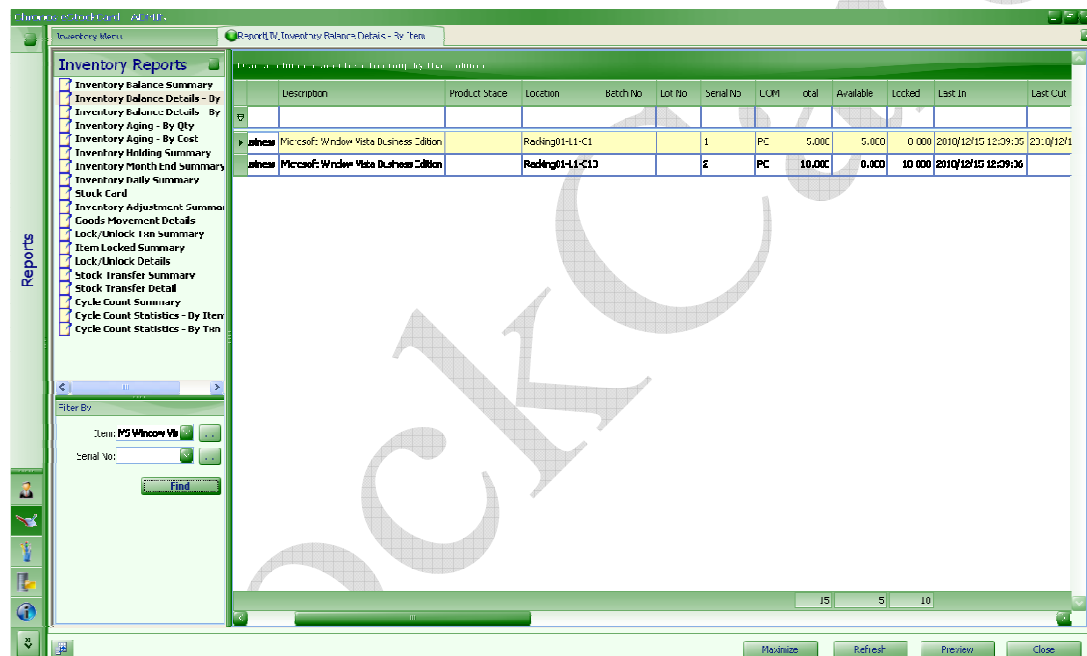

Fig. 50
Step 2 Under “Filter By” pull down, select “MS Windows Vista Business” from item code drop down and click “Find” (Fig. 50)